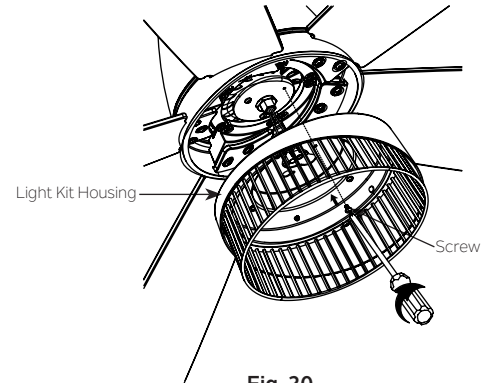

Fig. 20
Step 2. Place the two slot holes on the light kit housing over the 2 screws previously loosened from the mounting plate. Rotate the light kit housing until it locks in place at the narrow end of the key holes. Securely by tightening the 2 screws previously loosened and the one previously removed. (Fig. 20)